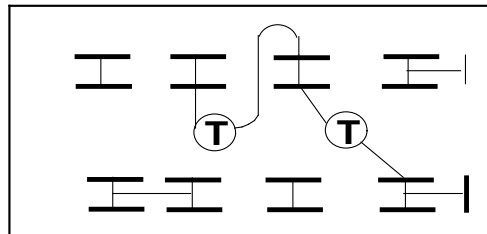

Fig. 7 Wired for 220VAC Operation
Step 1: Wire Power Transformer Terminal block as illustrated in Figure 7.